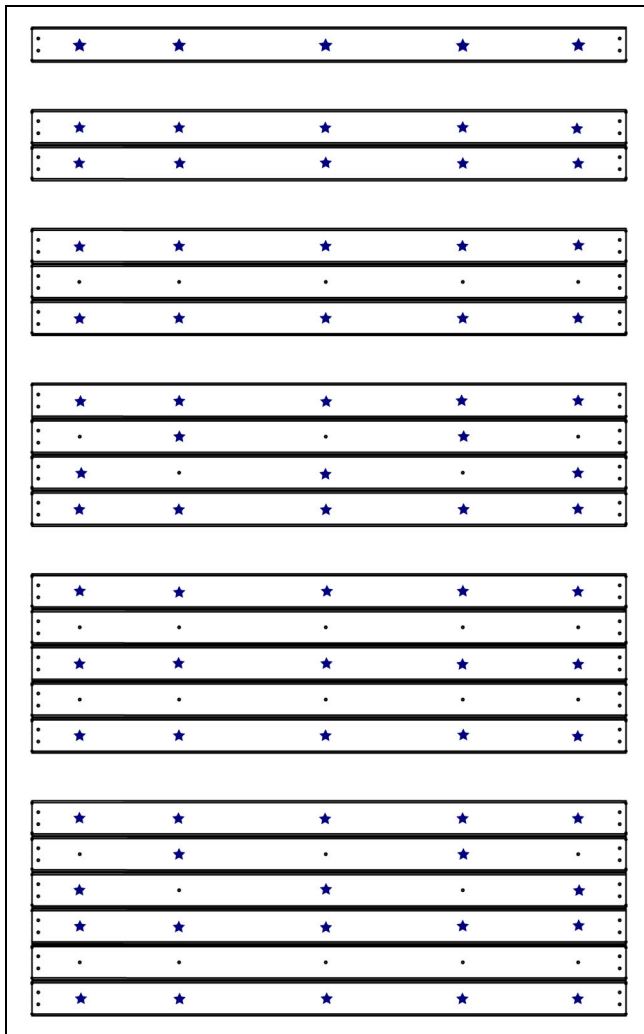
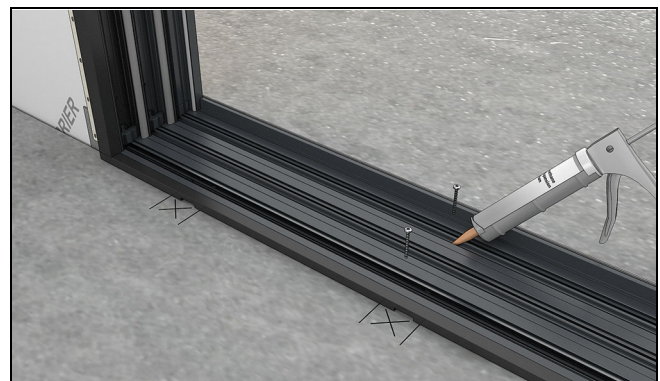

Figure 57 Place fasteners through Head Jamb, Sill, and Jamb at locations indicated by the star shapes above.
Figure 72
4. Use the chart below to determine proper fastener placement depending on configuration (number of tracks). See Figure 57.
8. Install the remaining screws into the sill. (not provided on performance or flush sills). Fasten HP sills at 10" (254) on center. All other sills, fasten at 20" (508). See Figure 72. See Figure 57 previously for screw placement.